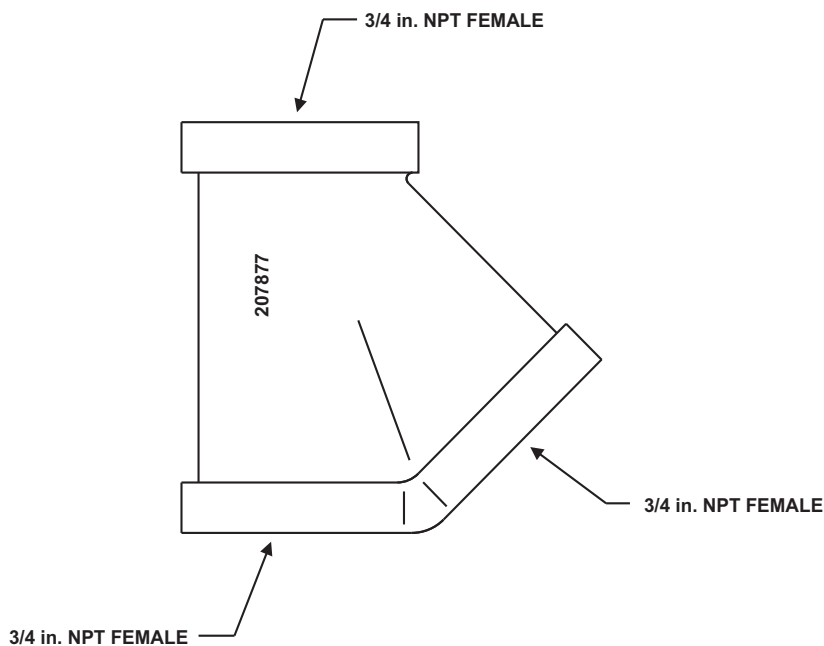

Figure 4-13. Manifold "Y" Fitting
The manifold "Y" fitting, Part No. 81-207877-000 (Figure 4-13), is used in place of a pipe manifold to connect a two (2) cylinder system or for connecting a single cylinder main and reserve system.